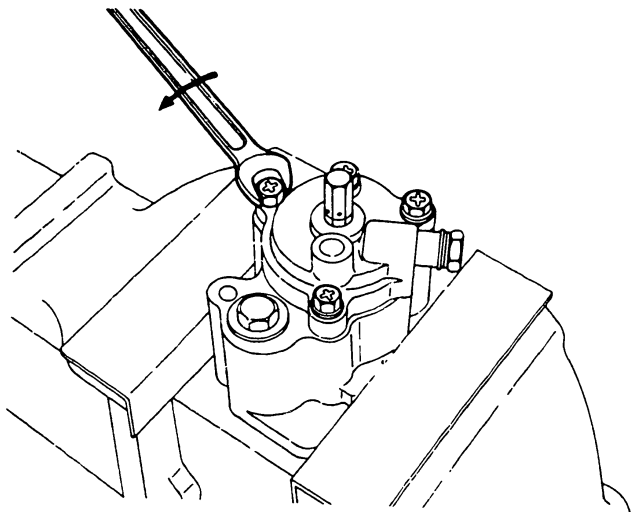

Fig. 96 Removing the bolts
47. Remove the three bolts (320/19) and the cover (320/18). (Fig. 96)